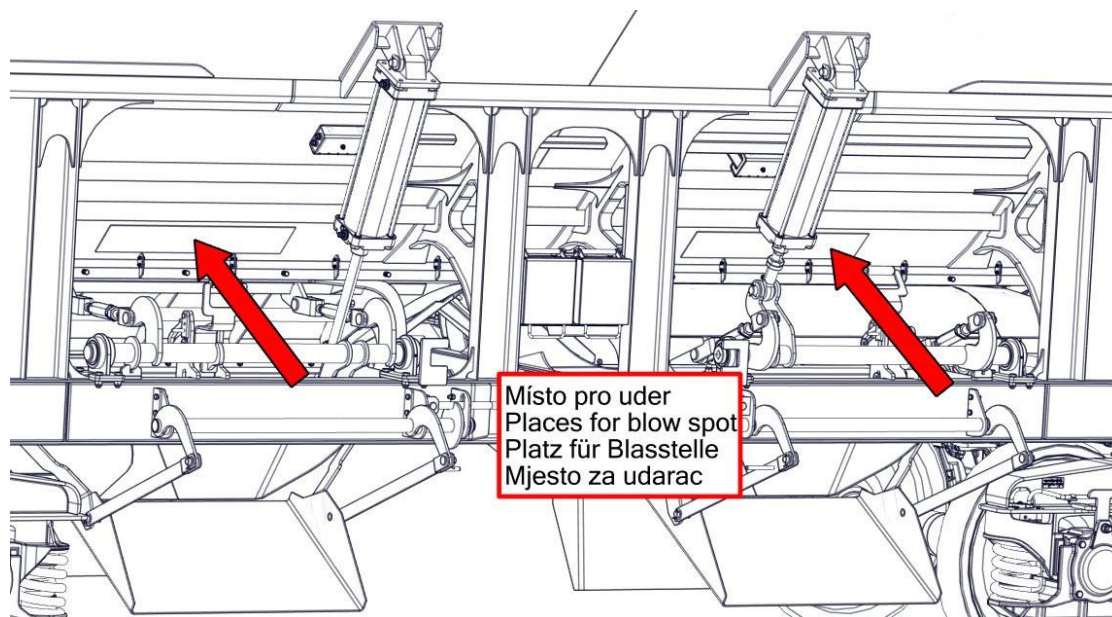
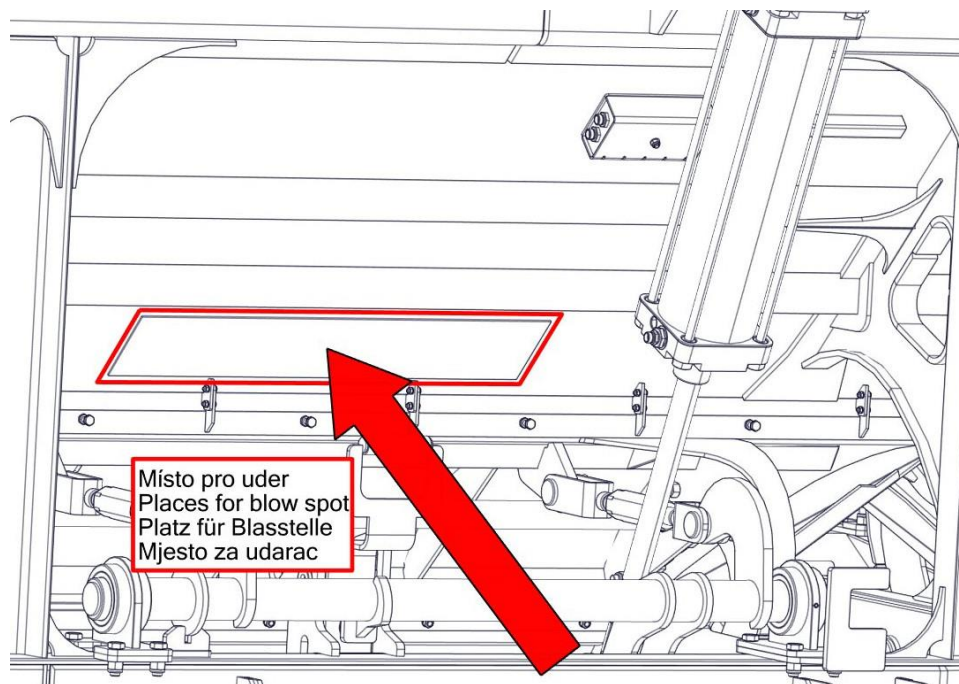

Fig. 2 – Places for blow spot
Fig. 3 – Detail of the place for blow spot
- can be facilitated by blows of the flat part of a hammer (mallet) on the reinforced parts in the middle of each unloading chute - Fig. 2 and Fig.3.